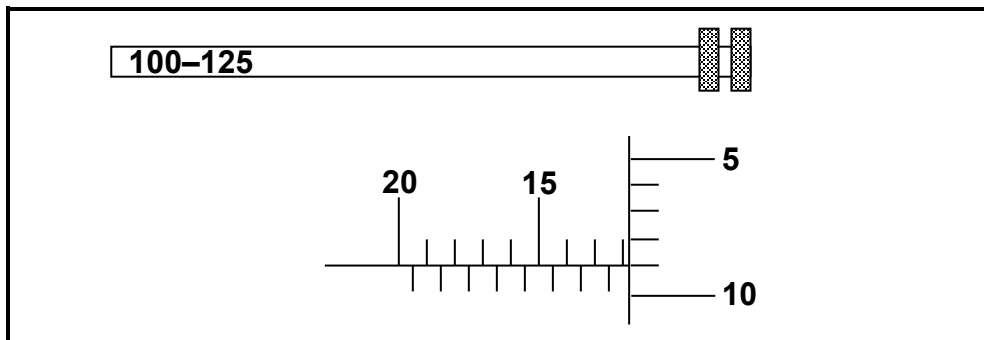

FIGURE 7.4
7.4 What is the reading on the depth micrometer, as shown in FIGURE 7.4 below?